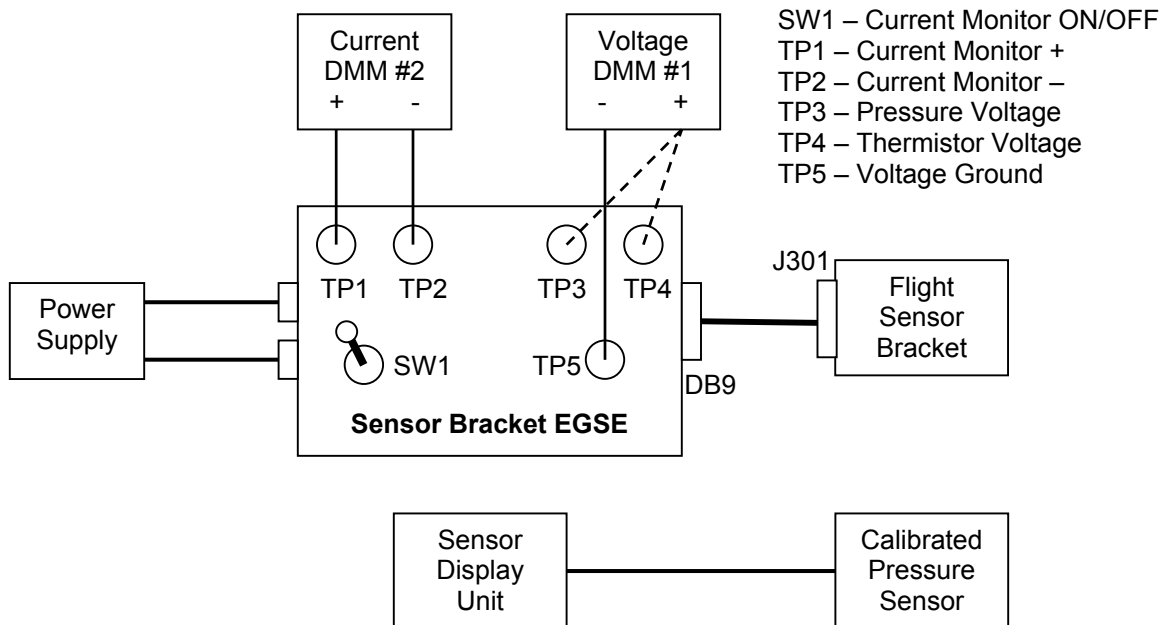

Figure 6-1 - Sensor Bracket Electrical GSE Setup
- 6.1.1** Refer to Figure 6-1 below for the electrical GSE setup using the sensor bracket EGSE P/N 2035660. Verify: \_\_\_\_\_